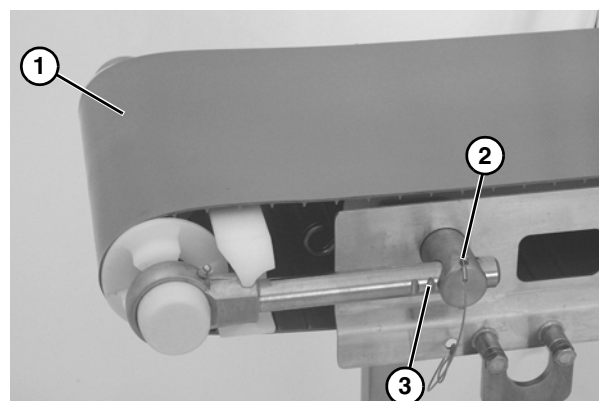

Figure 50
1. If there appears to be too much belt sag, place tip up idler tail in the down position (**Figure 50, item 1**).
2. Remove both pull pins (**Figure 50, item 2**), and extend the idler tail to the next groove (**Figure 50, item 3**) on the bearing shaft.
3. Continue extending the tension end until the belt is sufficiently tight (**Figure 50**).